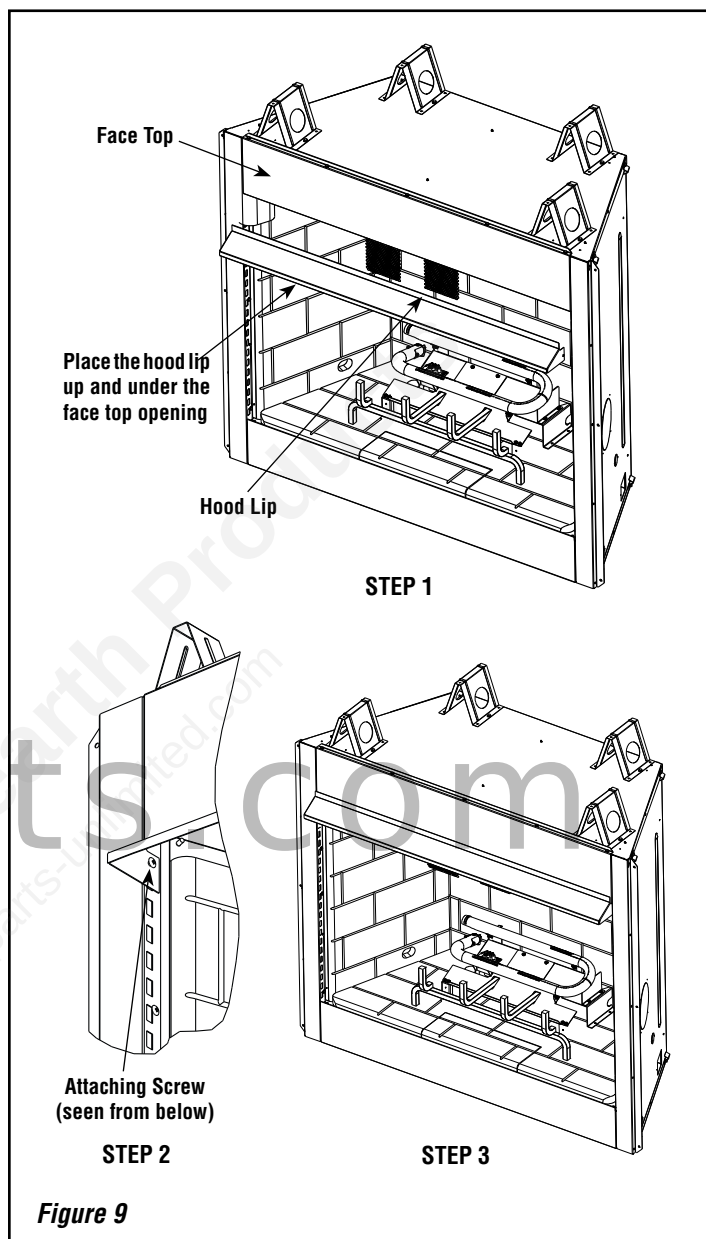

Figure 9
To install the hood trim kit, refer to **Figure 9** and follow the steps outlined below:
**Step 2.** Place the hood lip under the face top opening, as shown in **Figure 9 - Step 1**. Attach the hood with two (2) screws, one each side, as shown in **Figure 9 - Step 2**. Completed installation is shown in **Figure 9 - Step 3**.